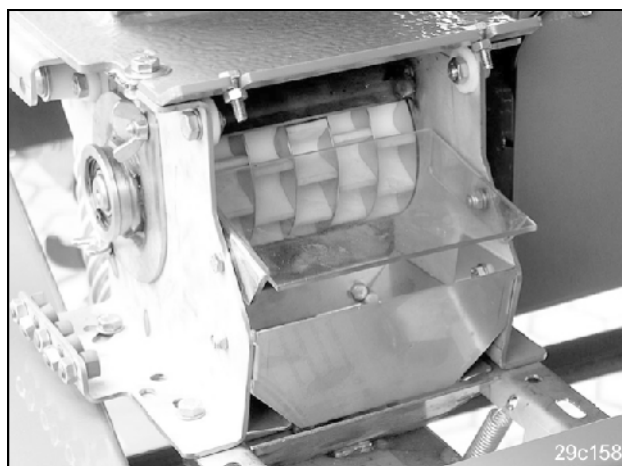

Fig. 72
- Figure (Fig. 72) shows the closed shutter slide.